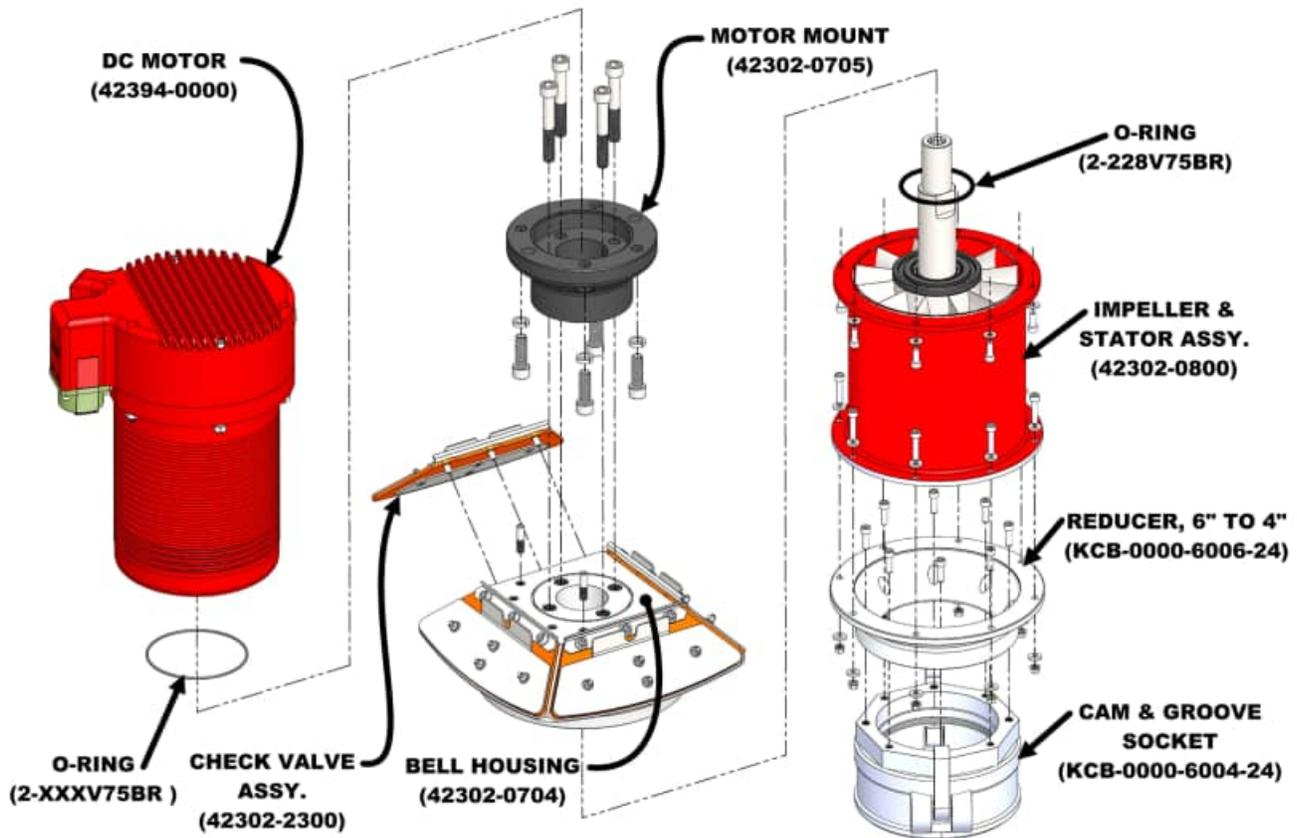
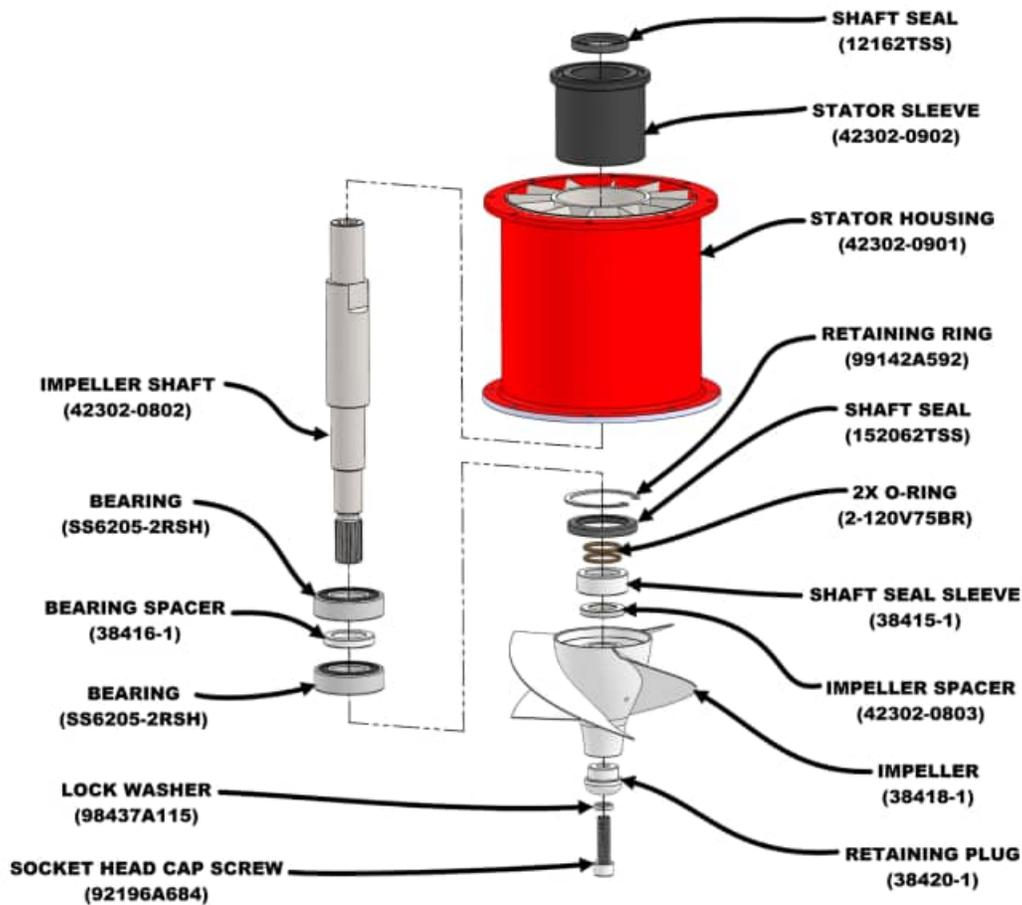

Figure 27: Bucket Refill Pump Disassembly (Motor Guard hidden for clarity)
Figure 28: Impeller and Stator Assembly
1. Motor Removal (see Figure 27)
2. Pump & Stator Disassembly (see Figure 27 and Figure 28)